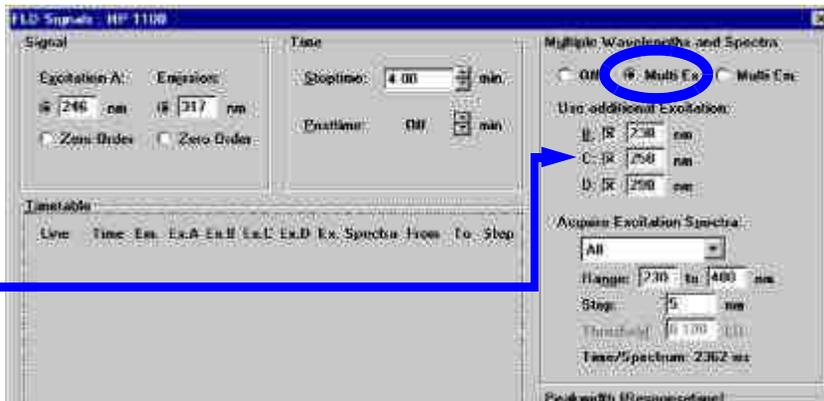

Figure 7 FLD Parameters
- 2 Set the FLD setpoints according to Figure 7 (on the local control module this information is split across separate screens).